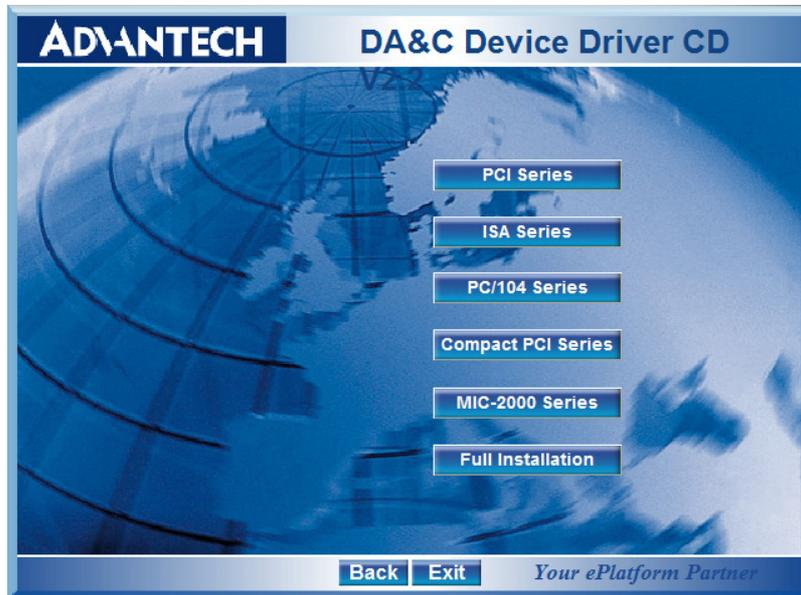

Figure 11 Main Menu
11. Return to the main installer menu (Figure 4). To install the card driver select 'Individual Driver'. The menu appears as shown in Figure 11.